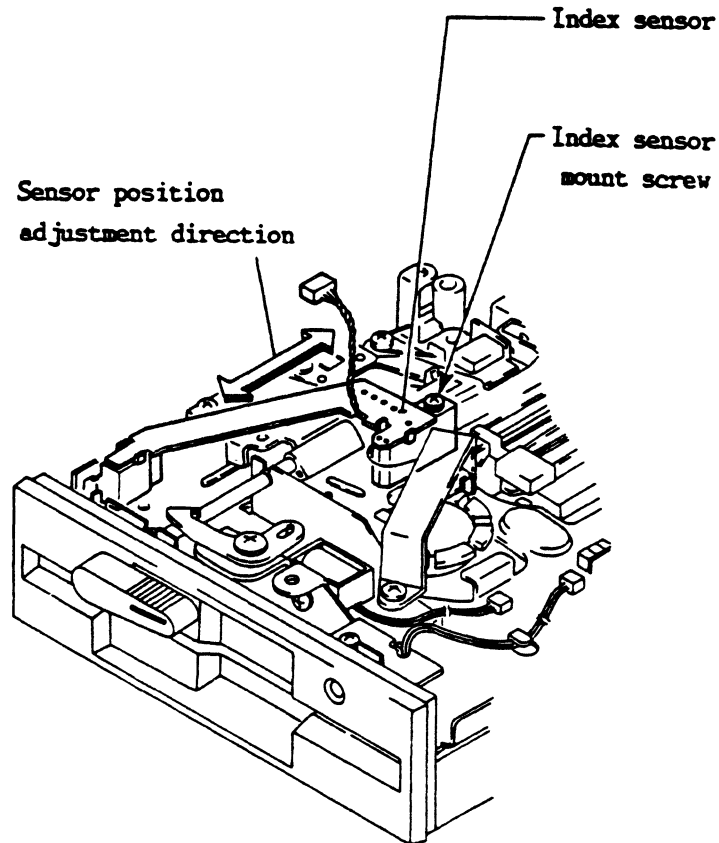

Figure 4-15 Index Sensor Adjustment
- (a) Refer to Figure 4-15. Loosen the Index sensor mounting screw and move the sensor until the True Index Burst Timing is within the specified range given in step 6.